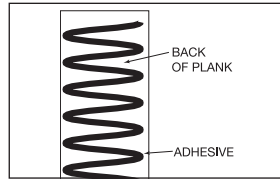

Figure 7
- If the Engineered Hardwood Flooring plank is wider than 5" it must be installed applying a 1/4" serpentine bead of Premium construction adhesive to the back of each board. (Figure 7).**